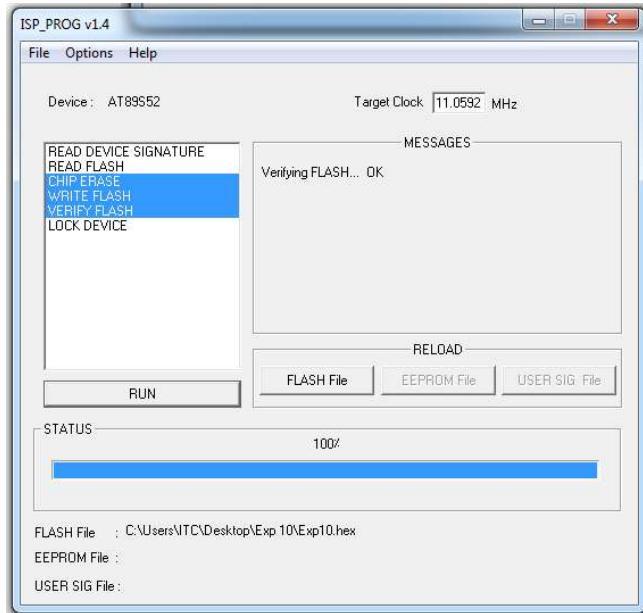

Figure 3.29: Download Completion Window
- p. Check the output using oscilloscope after status becomes 100% as shown in Figure 3.29.